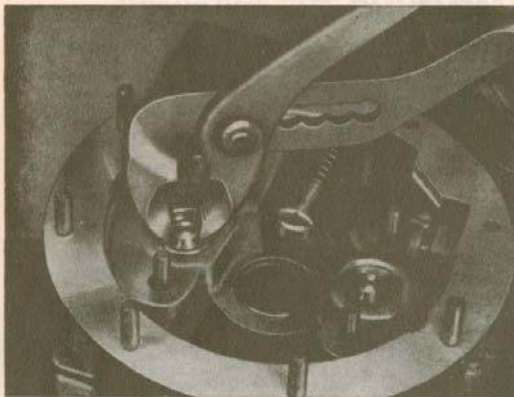
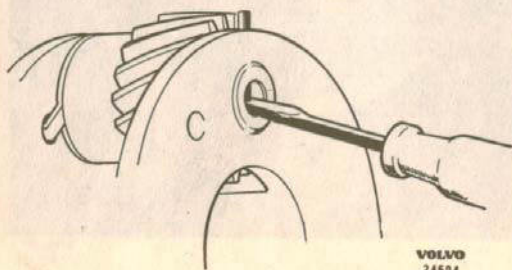

Fig. 3-46. Removing the plungers
Fig. 3-47. Removing the locking pins in the planet wheels
- valve. Remove the oil strainer. Unscrew the bolts and lift out the solenoid (17).
2. Bend down the locking plate, unscrew and remove the nuts for the plunger pressure plate (54). Remove the pressure plates. Pull out the plungers with the help of a pair of pliers, see Fig. 3-46.
3. Unscrew the nuts which hold together the brake drum (39), the front (46) and rear (20) housing halves. Slacken the nuts successively all round so that there is no oblique tension from the springs. Lift off the front housing half and brake drum.
4. Lift out the clutch disk (41) complete with thrust bearing and sun wheel. Remove the four springs and pressure plate. Remove the locking rings for the sun wheel (44) and bearing. Remove the sun wheel. Pull off the bearing from the clutch disk. Press out the bearing from the retainer.
5. Lift off the planet wheel (36) and carrier (43). Remove the locking pins (40) for the planet wheel shafts by first pressing them out with a drift or similar, see Fig. 3-47 and then removing them with a pair of pliers. If this is not possible, drill out the pins with a suitable drill. Press out the planet wheel shafts and remove the planet wheels.